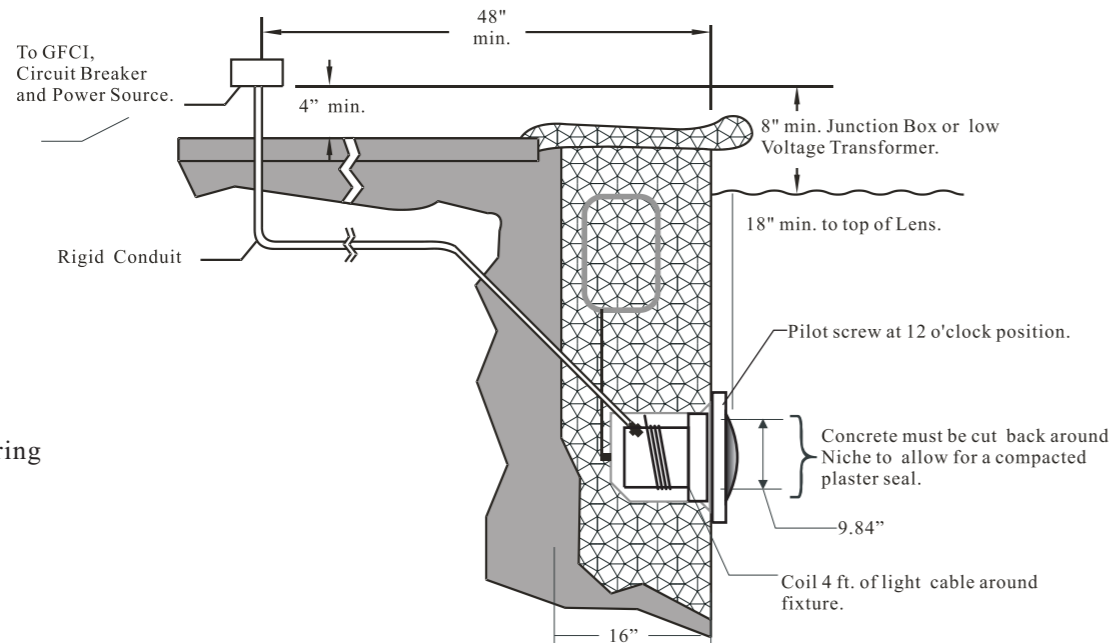

Figure 1 - Wiring
1. Prior to concreting the pool, put light niche in place. Be sure the top of the niche be at least 18 inches (457mm) below the water level, see Figure 1 below,